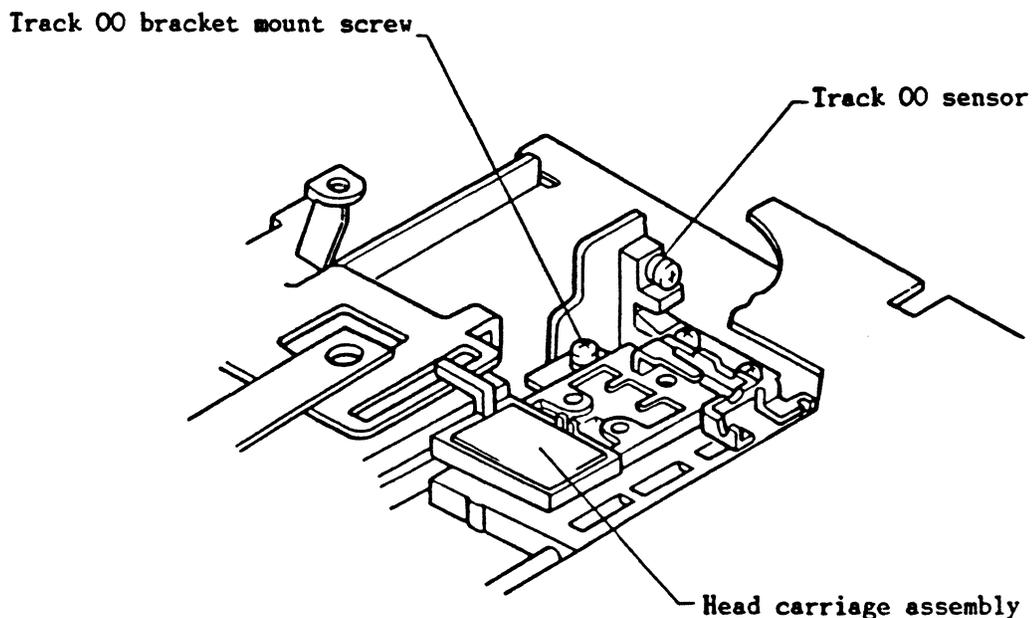

Fig. 418 Track 00 Sensor Adjustment
- (i) Loosen the track 00 sensor mounting screw (refer to Fig.418), move the sensor backward and forward, fine adjust to near the intermediate point where the IP7 voltage changes from approximately 0.5V to 3.0V, and then tighten the mounting screw.
- (j) Check items (3)~(5).
- (m) Adjust the track 00 stopper as described in item 4-4-12.